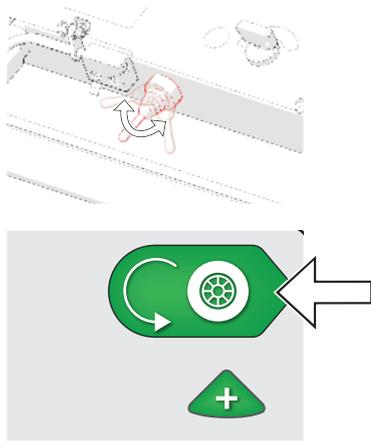

Fig. 12D - Activate drive with either the drive switch or drive start/stop button
6. Use the drive switch to power the drive motor. Alternatively select 'Drive start/stop' on the display screen (Fig. 12D).